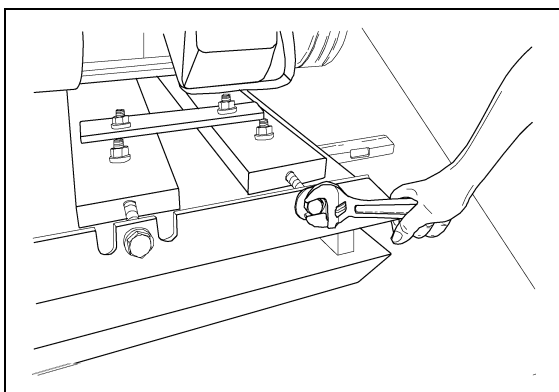

Figure 4H
3. Check the motor name plate for the correct motor frame size. Then refer to the Drawing on Pages 20 to determine proper mounting holes and spacing of the motor mount channel. The spacing of the motor mount channels is changed by moving the channel to the proper notch cut into the main base of the blower platform. See Figure 4H and the Drawing on page 20. Finish by bolting the motor securely to the channels. Leave the four 1/2" carriage bolts loose, holding the channels to the main frame.
5. Place the matching set of V-belts on the pulleys. Tighten the belts by evenly turning the cap screws clockwise. Belts should have 3/8" deflection at ten pounds pressure per belt. (See Figure 4H).